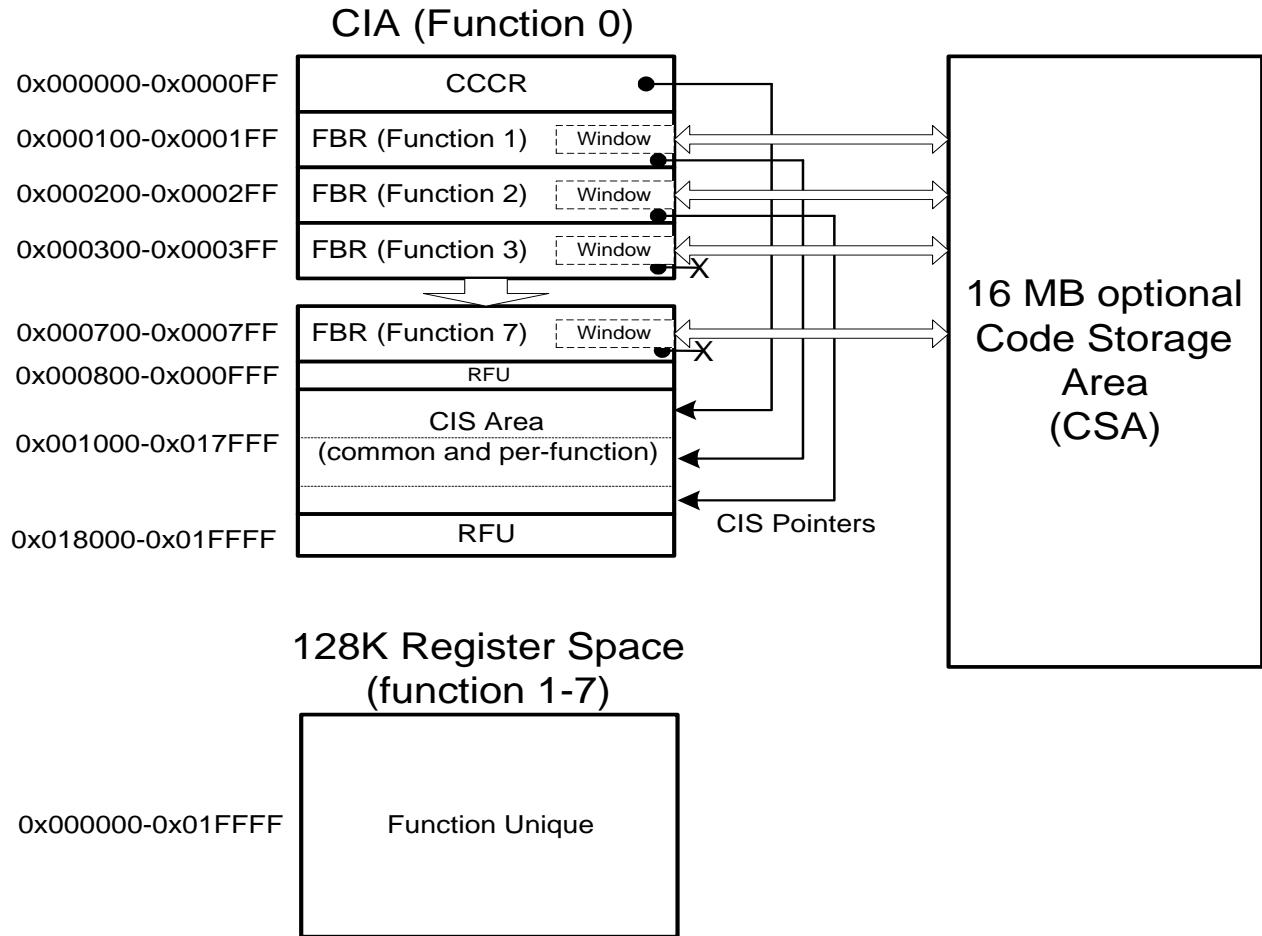

Figure 6-1 : SDIO Internal Map
Each SDIO card may have from 1 to 7 functions plus one memory function. A function is a self contained I/O device. I/O functions may be identical or completely different from each other. All I/O functions are organized as a collection of registers. There is a maximum of 131,072 (2^{17}) registers possible for each I/O function. These registers and their individual bits may be read Only (RO), Write Only (WO) or Read/Write (R/W). These registers can be 8, 16 or 32 bits wide within the card. All addressing is based on byte access. These registers can be written and/or read one at a time, multiply to the same address or multiply to an incrementing address. The single R/W access is often used to initialize the I/O function or to read a single status or data value. The multiple reads to a fixed address are used to read or write data from a data FIFO register in the card. The read to incrementing addresses is used to read or write a collection of data to/from a RAM area inside of the card. Figure 6-1 shows the mapping of the CIA and optional CSA space for an SDIO card.
The SDIO card has a fixed internal register space and a function unique area. The fixed area contains information about the card and certain mandatory and optional registers in fixed locations. The fixed locations allow any host to obtain information about the card and perform simple operations such as enable in a common manner. The function unique area is a per-function area, which is defined either by the Application Specifications for Standard SDIO functions or by the vendor for non-standard functions. Figure 6-1 shows the internal map of an SDIO card with multiple functions.